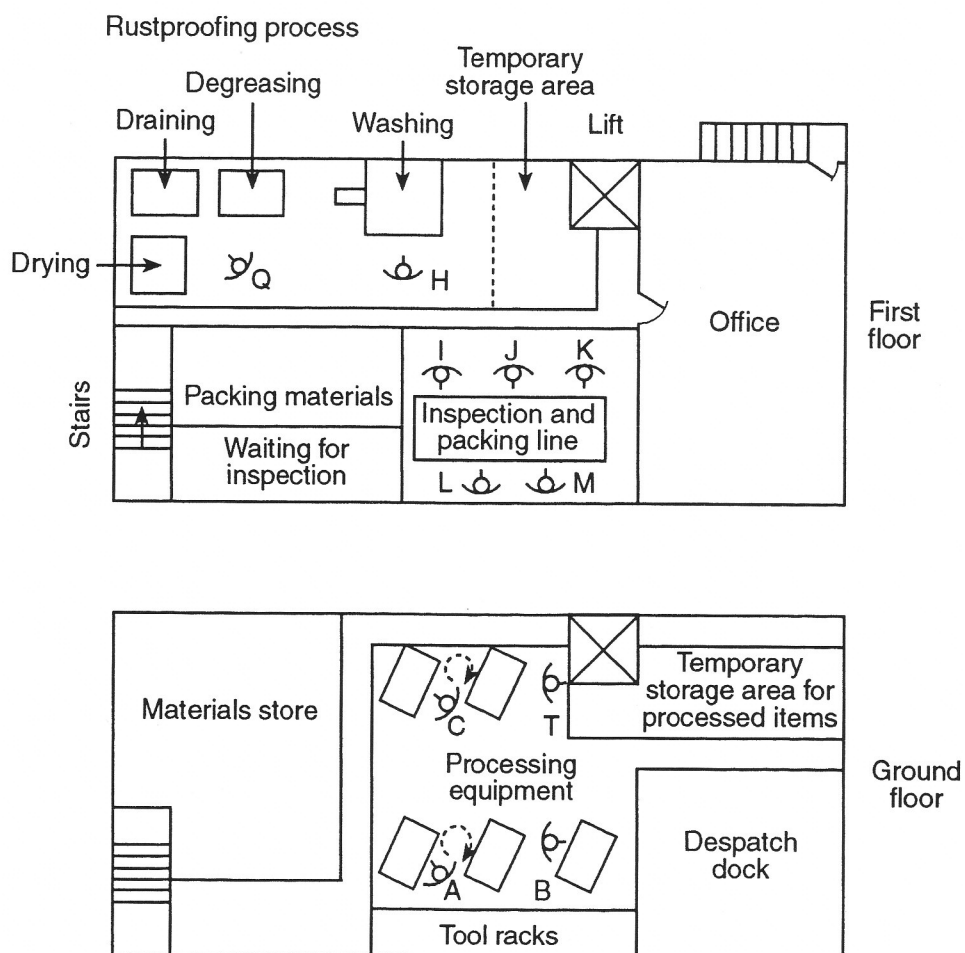

Figure 2-3 Present Layout
9. In addition to the above, a changeover is required in the initial machining process each time a different type of component is machined. These changeovers consist mainly of exchanging jigs and tools, and the required tools are brought from the toolroom together with the necessary programme tapes. The present factory layout is as shown in Figure 2-3. Since there is a shortage of labour and it is difficult at the moment to increase the number of employees in the plant, the workplace is required to make the operation as efficient as possible. Top management also wants to reduce the number of workers by one and make an annual saving of around £14,000. They have asked the plant manager to work out an improvement plan. All the equipment can easily be moved and can be rearranged at little cost in any way desired.